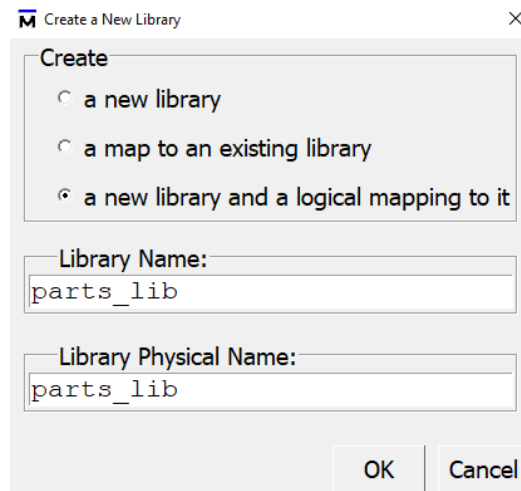

Figure 54
- b. Type **parts_lib** in the Library Name field (Figure 54). The Library Physical Name field is filled out automatically.